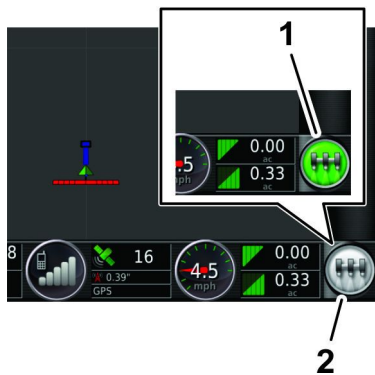

Figure 200
- On the GeoLink control console, press the MASTER SWITCH icon (Figure 200) to the ON (green).